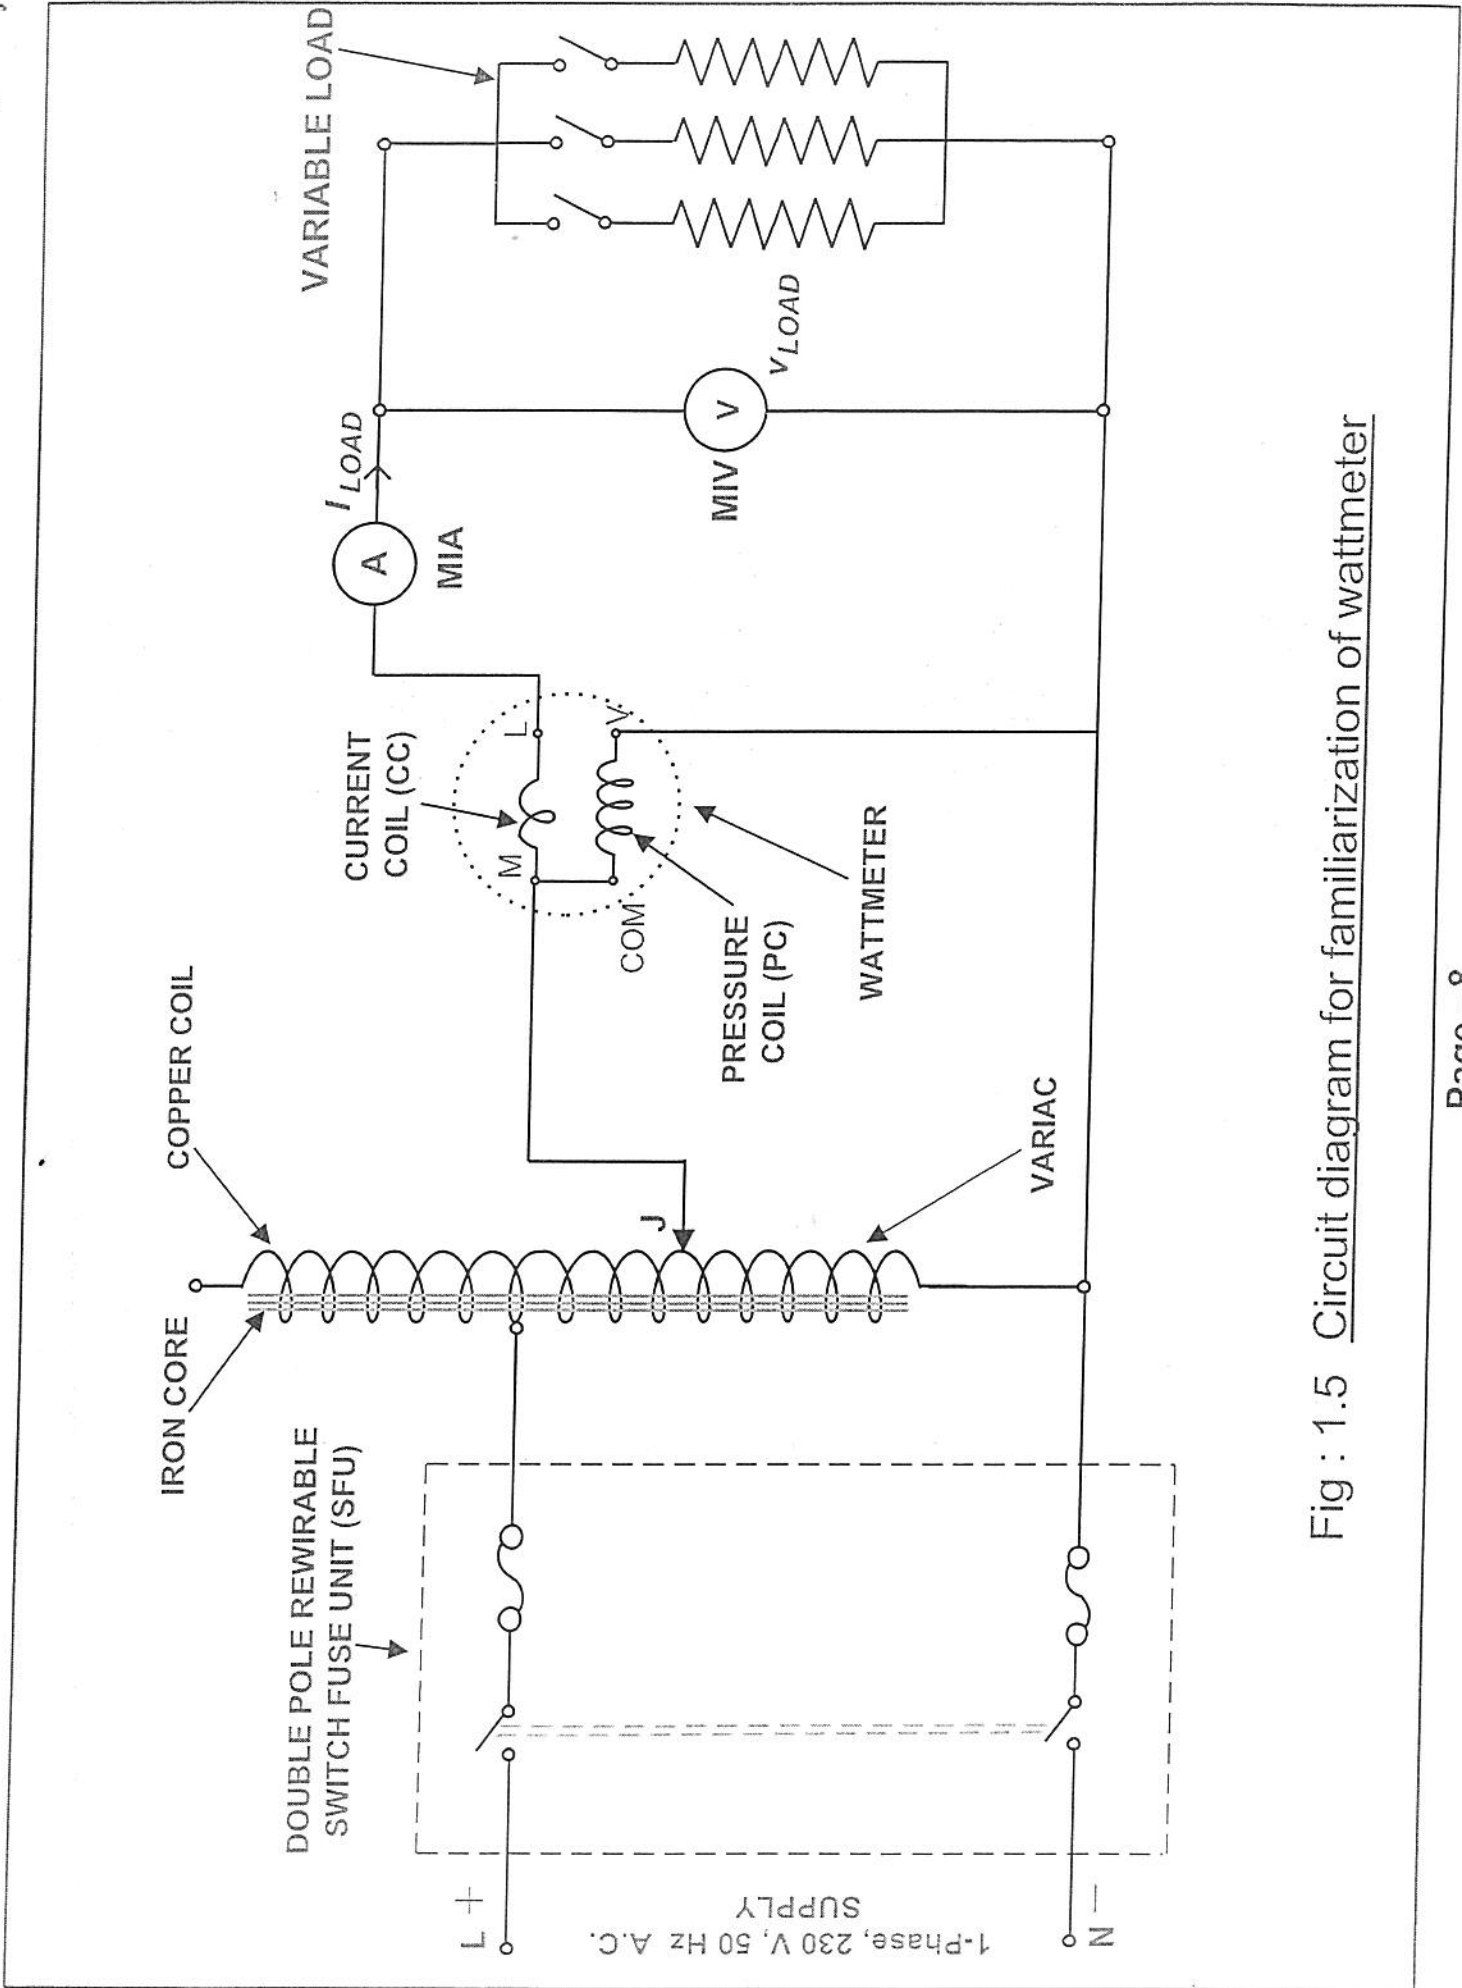

Fig : 1.5 Circuit diagram for familiarization of wattmeter
A wattmeter has a voltage coil or ‘pressure coil’ (PC) which senses voltage across the element for which the power is to be measured and a current coil (CC) which senses the current through that element or part of the circuit (load). Thus, a wattmeter will show a reading when its current and pressure coils are excited simultaneously. A wattmeter has at least four terminals, two for current coil and two for pressure coil . However in a usual portable wattmeter, quite often many more terminals are provided for measuring power at different currents and voltage ranges. The symbolic representation of wattmeter is shown in Fig.1.5.
- 1) Make connections as shown in the Fig.1.5 with lower current range and lower voltage range of wattmeter.
1.	Current coil terminal "M" connected to Pressure coil "COM" terminal as in Fig.1.5